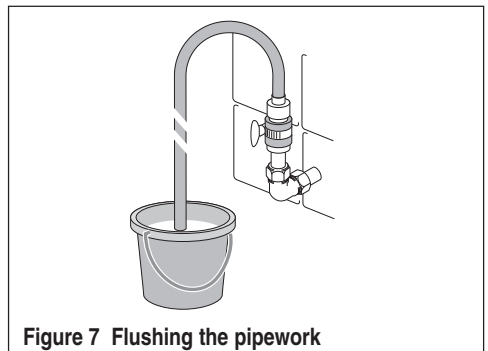

Figure 7 Flushing the pipework
3.13 Before making the final water connections to the shower heater, the pipework **MUST BE FLUSHED THOROUGHLY** to remove brick dust, swarf etc. which could severely damage the shower itself - see Fig. 7.
5.21 It is essential to flush the system in order to clear debris, particles of solder and swarf which could enter and damage components within the shower heater, prior to connecting to the shower - see Fig. 7. It may be best to take the shower off the wall to do this.